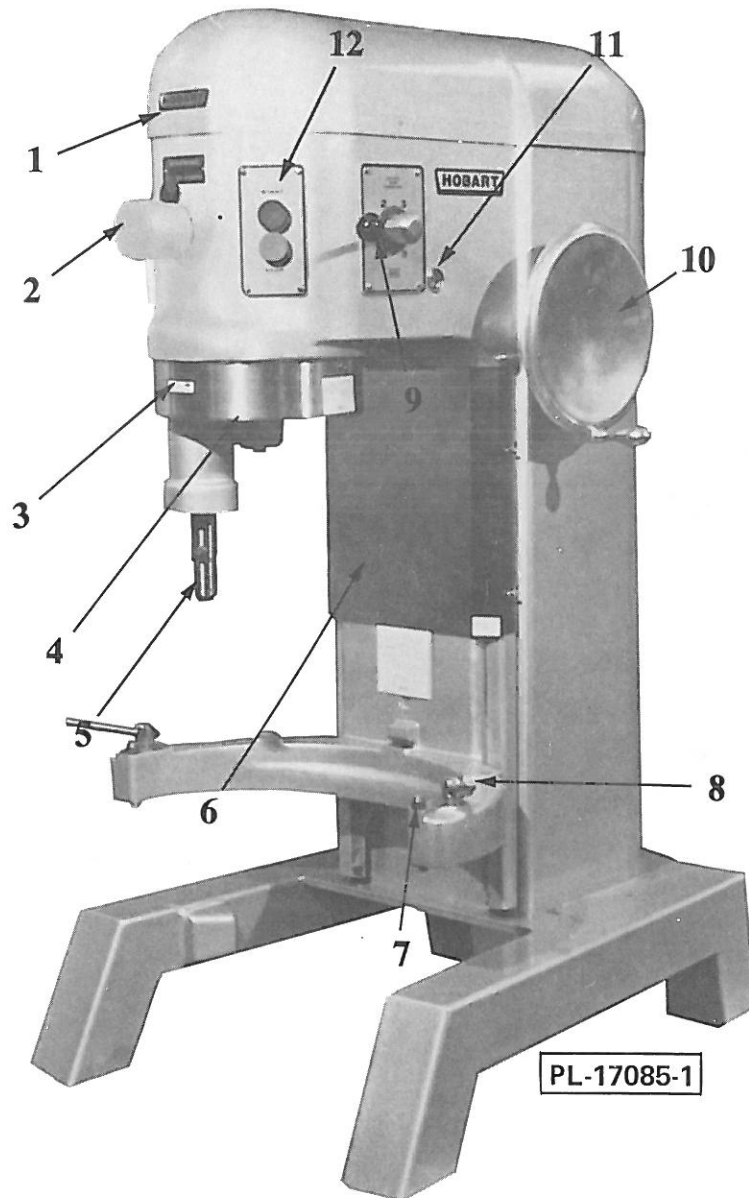
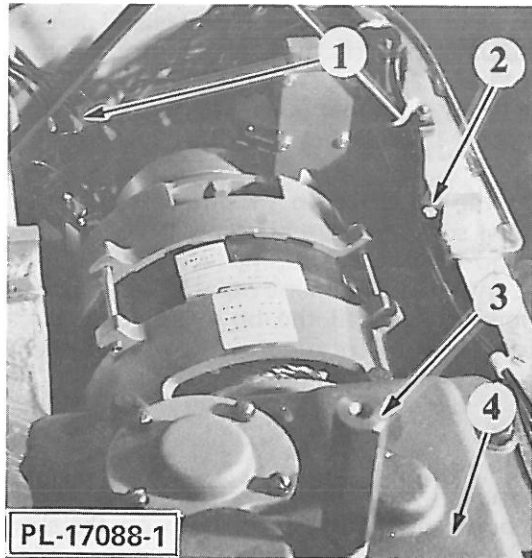
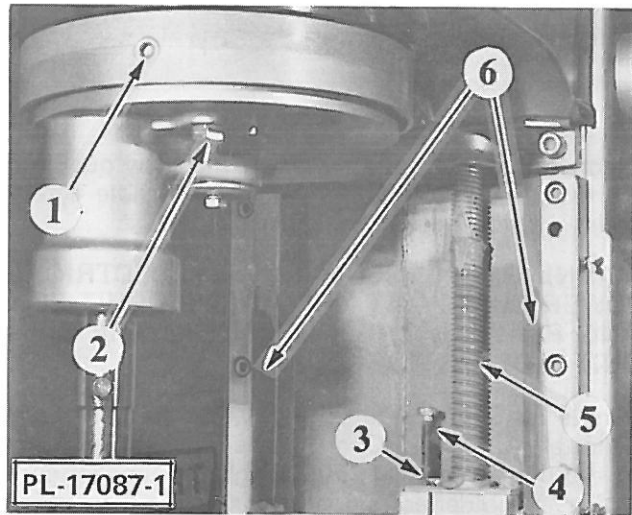
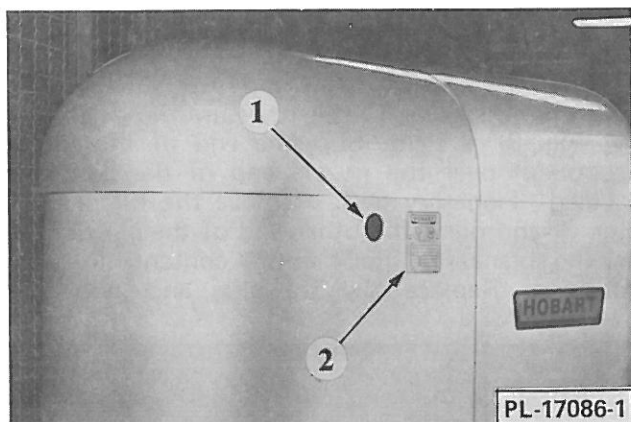

Fig. 1
Fig. 2
Fig. 3
Fig. 4
The H-600 series mixer incorporates a #12 attachment hub (2, Fig. 1) which will accept any #12 attachment. Various attachments and accessories available for this mixer include: Power dicer; vegetable slicer and shredder; meat and food chopper; soup strainer and colander; tray support; bowl jacket; bowl truck; bowl truck adapter; splash cover and bowl extension ring.
The machine must be leveled once located. Remove the top cover screws and the top cover (1, Fig. 1). Place a level on the machined surface of the transmission case (4, Fig. 2). Slide shims under the legs of the base as necessary to level the mixer.
**Transmission:** The front support (3, Fig. 2) for the top cover serves as the oil-fill plug. Remove the support and pour the contents of the bottle labeled "Transmission Oil", shipped with the machine, into the case. The oil level should be between the center and top of the oil level gauge (11, Fig. 1). If the oil level falls below the gauge when the motor is running, more oil is required. When adding oil, add small amounts at a time and check during operation.
Remove the drip cup (4, Fig. 1), which is held by two thumb screws. Check to assure the drain plug (2, Fig. 3) is tight. Slip one end of the tubing (supplied) over the nozzle end of the container labeled "Planetary Oil". Remove the fill plug (1, Fig. 3) and place the other end of the plastic tube in the planetary. Pour entire contents into the machine. Replace the fill plug and drip cup.
Before making electrical connections, check the specifications on the data plate (2, Fig. 4) to assure they agree with those of your electrical service.
A hole for 3/4" conduit is located at the top of the pedestal (1, Fig. 4). Connect the input power leads to the pigtail leads (1, Fig. 2) from the motor controller. A solderless lug is provided for the service ground.
Three phase machines must be connected so the planetary turns in the direction of the arrow (3, Fig. 1). To check the direction of rotation, turn the power disconnect switch "ON". Place the speed selector (9, Fig. 1) in #1. If machine is equipped with optional timer, place timer on "HOLD". Energize machine momentarily by pushing "START" then "STOP" (12, Fig. 1) and verify the direction of rotation.
If motor rotation is incorrect, interchange any two of the power supply leads (1, Fig. 2).
The manual bowl lift is operated by the hand wheel (10, Fig. 1). To raise the bowl, turn the wheel clockwise and counterclockwise to lower.
In case of power failure, the bowl can be raised or lowered manually. First remove the apron (6, Fig. 1), held in place by four thumb screws, to expose the lift screw (5, Fig. 3). Place a 1" open end wrench on the lift screw hex and turn the bowl lift screw in the direction desired.
Lower the bowl lift to its bottom stop. Position the bowl so the square alignment bracket is to the back and the alignment pins (7, Fig. 1) in the bowl lift fit into the alignment holes of the bowl. Raise the bowl yoke until the bowl is seated. Lock the bowl in place by rotating the bowl clamps (8, Fig. 1) over the ears of the bowl.
With the bowl in place and the lift at its bottom stop, push the agitator shank up on the shaft (5, Fig. 1) and turn clockwise until the drive pin of the shaft latches in the L-shape slot of the agitator shank. Agitators which may be used with this mixer are identified on the last page of this manual.
Install the attachment into the attachment hub of the mixer (2, Fig. 1). Make certain the square shank of the attachment is in the square drive of the mixer. Secure the attachment by tightening the thumb screw. Place the speed selector handle (9, Fig. 1) in the desired speed. Turn mixer "ON" (12, Fig. 1) to operate attachment.
with a cloth wrapped around it, provides a tool to reach the narrow opening between the bowl yoke and pedestal at the slideways (6, Fig. 3). Other areas may be cleaned by using the brush.
The mixer should be thoroughly cleaned daily. Do not use a hose on the mixer. It should be washed with a clean damp cloth. The base allows ample room to clean under the mixer. The bowl support apron (6, Fig. 1) may be easily removed by loosening the thumb screws.
The drip cup (4, Fig. 1) should be removed periodically and wiped clean. The cup is removed by loosening the two thumb screws and pulling down.
**Planetary:** The oil in the planetary should be checked periodically. Remove the drip cup (4, Fig. 1) by loosening the two thumb screws and pulling down. Remove the fill plug (1, Fig. 3). Oil should be even with the bottom of the fill plug hole. If oil does not run out, slowly add "Gearep #85" until it begins to overflow. Replace the fill plug and the drip cup.
An oil drain is located at the bottom of the planetary (2, Fig. 3). Should draining be necessary, remove the drip cup (4, Fig. 1) and place a suitable catch pan under the planetary. Remove the drain plug. When completely drained, replace the drain plug. Remove the fill plug (1, Fig. 3) and replenish with 6 ounces of "Gearep #85".
**Transmission:** The oil level should be somewhere between the center and top of the oil gauge (11, Fig. 1) for correct lubrication. If the oil falls below this, remove the top cover (1, Fig. 1) and the front cover support (3, Fig. 2), which acts as a fill plug. Pour "Gearep #140" into the transmission until oil returns to the gauge line. Replace the bracket and the top cover. Use caution not to overfill the transmission as leakage may result.
**Bowl Lift:** The slideways (6, Fig. 3) and the lift screw (5, Fig. 3) should be lubricated about twice a year depending upon amount of use. To reach these areas, loosen the thumb screws and remove the apron (6, Fig. 1). Wipe a thin coat of "Lubriplate 630AA" (supplied) on each slideway and on the lift screw. Replace the apron and tighten the thumb screws.
On manual lift units also lubricate the handwheel gearing. To do this, remove the top cover (1, Fig. 1) and wipe some "Lubriplate 630AA" (supplied) on the gear teeth inside the pedestal. The handwheel shaft is oiled through an oiler (2, Fig. 2) on the handwheel bracket.
Remove the bowl support apron (6, Fig. 1). Install the bowl and lock in place. Install the "B" beater. Slowly raise the bowl to the "UP" position using caution to stop before the agitator touches the bottom of the bowl.
**NOTE:** On power bowl lift models turn the lift screw (5, Fig. 3) with an open end wrench on the machined hex at the top of the screw.
Loosen the lock nut (3, Fig. 3) and turn the stop screw (4, Fig. 3) clockwise several turns. Slowly turn the bowl lift (10, Fig. 1) to the specified clearance. Turn the stop screw counterclockwise until it is firmly seated against the mixer pedestal. Tighten the lock nut while holding the stop screw.